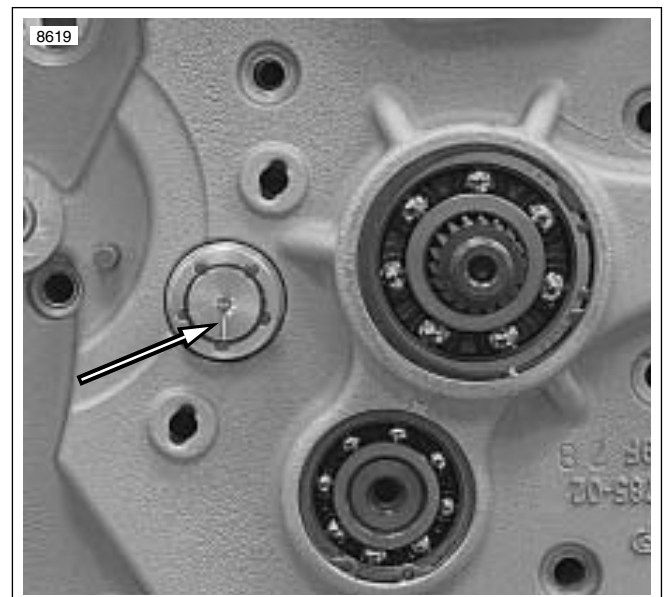

Figure 6-50. Scribed Line on Shifter Drum at 6 O'clock (Transmission in 4th Gear)
15. See Figure 6-50. Place transmission in 4th gear. The scribed line should now be at the 6 o'clock position.